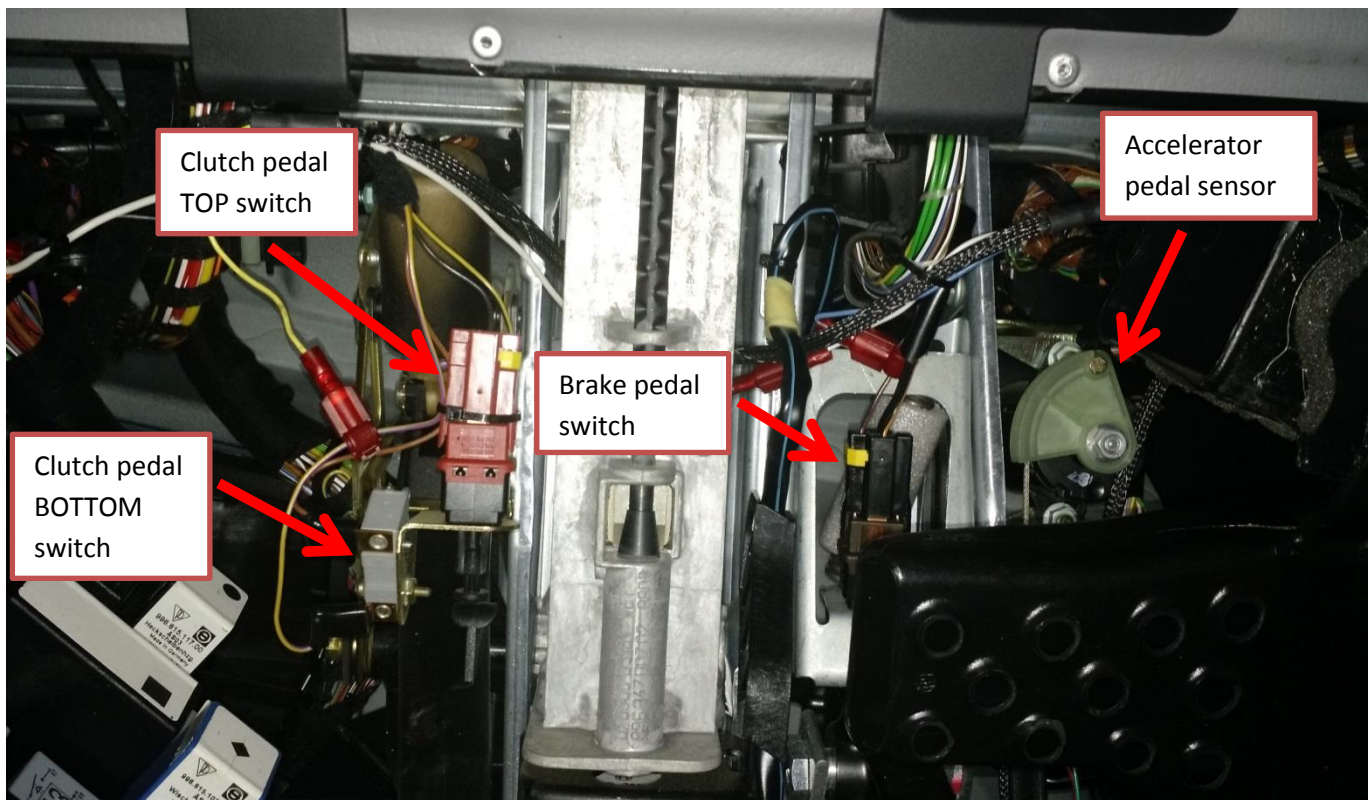

Figure 1a (General overview of the Sensors under the driver's dash)
1. Locate all the specified switches/sensors shown below on **Figures 1a & 1b**.
2. Connect the (6) *AUTO-BLiP* wires from the harness to the corresponding car wires as outlined in the table shown above.